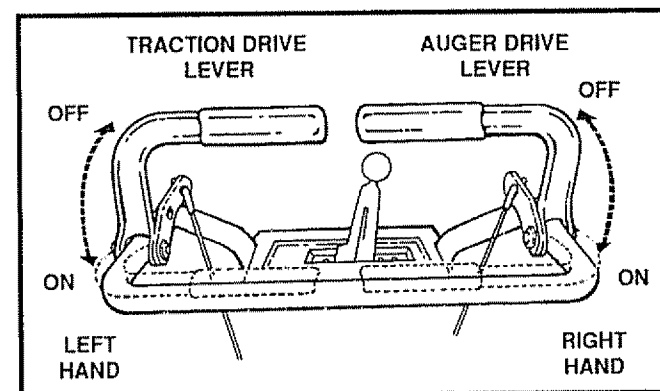

FIG. 11
- To stop throwing snow, release the auger drive lever (See Fig. 11).
- Engage the traction drive lever (See Fig 11, left hand) As the snow thrower starts to move, maintain a firm hold on the handles, and guide the snow thrower along the clearing path. Do not attempt to push the snow thrower.
- Push down the auger drive lever (See Fig. 11, right hand).